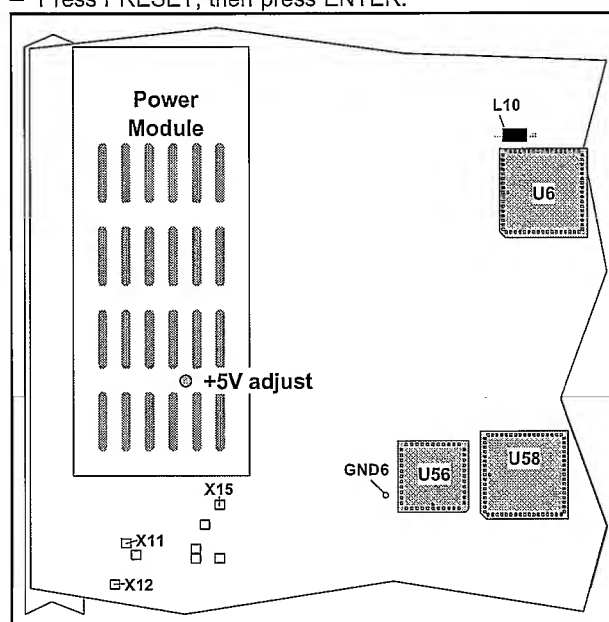

Figure 6-1 Test points and trimmer for the Power Supply.
- Connect the DMM to test points L10 and GND6, see Figure 6-1.